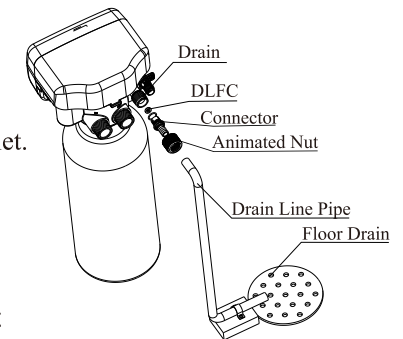

Figure 5
- a. As the Figure 5 shows, Insert drain line flow control into drain outlet.
- e. Locate the drain hose well as the Figure 5 show.
- Be sure not connect drain pipeline with sewer, and as Figure 5 shows, there is a certain space leaved between them to avoid wastewater being absorbed to the water treatment equipment.